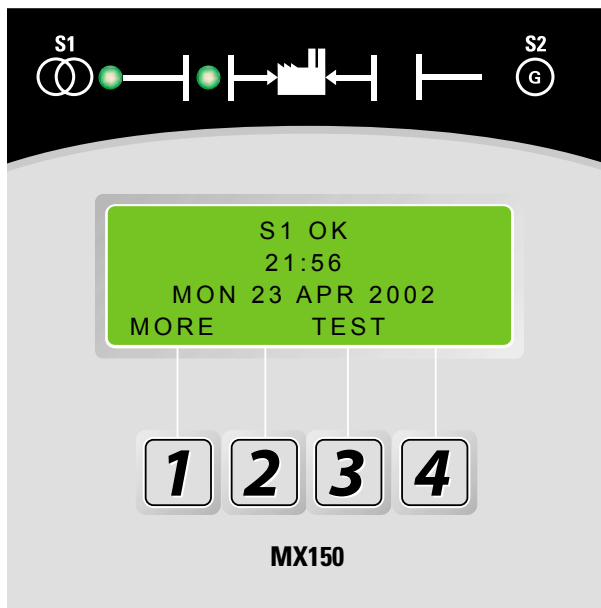

Figure 5 – LCD and keypad
After all options and accessories are checked and verified, follow these steps to set up the ATS. Refer to MX150 display *Figure 5*. The annunciation LEDs illuminate to indicate (1) source availability, (2) ATS position, and (3) MX150 control function (timing).